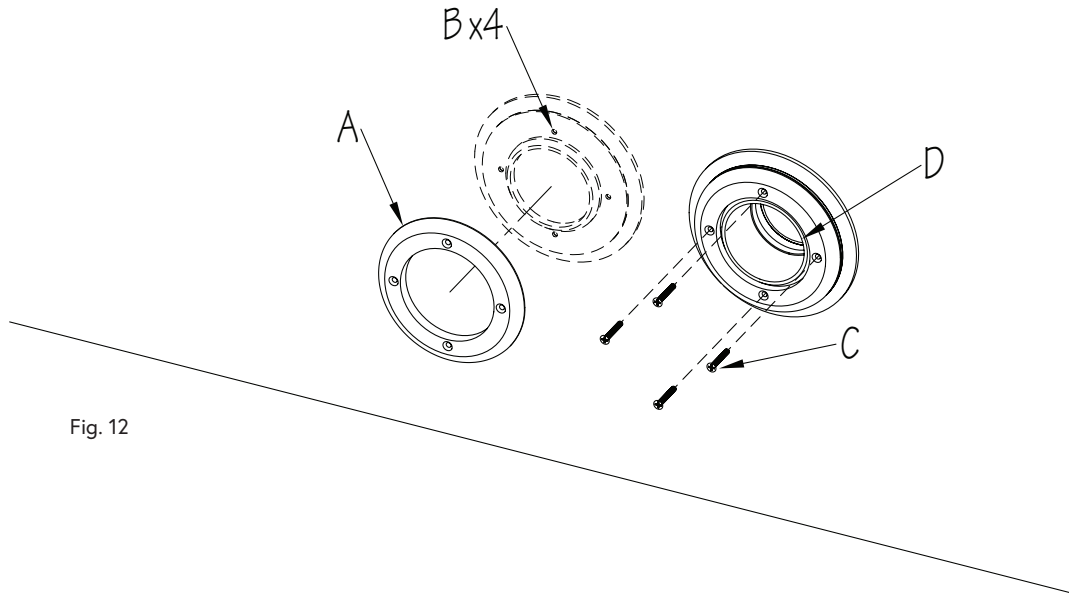

Fig. 12
Once the Faceplates are installed, use a sharp utility knife to cut out the round holes in the liner (D) using the inside of the Faceplate as a template (Fig. 12).